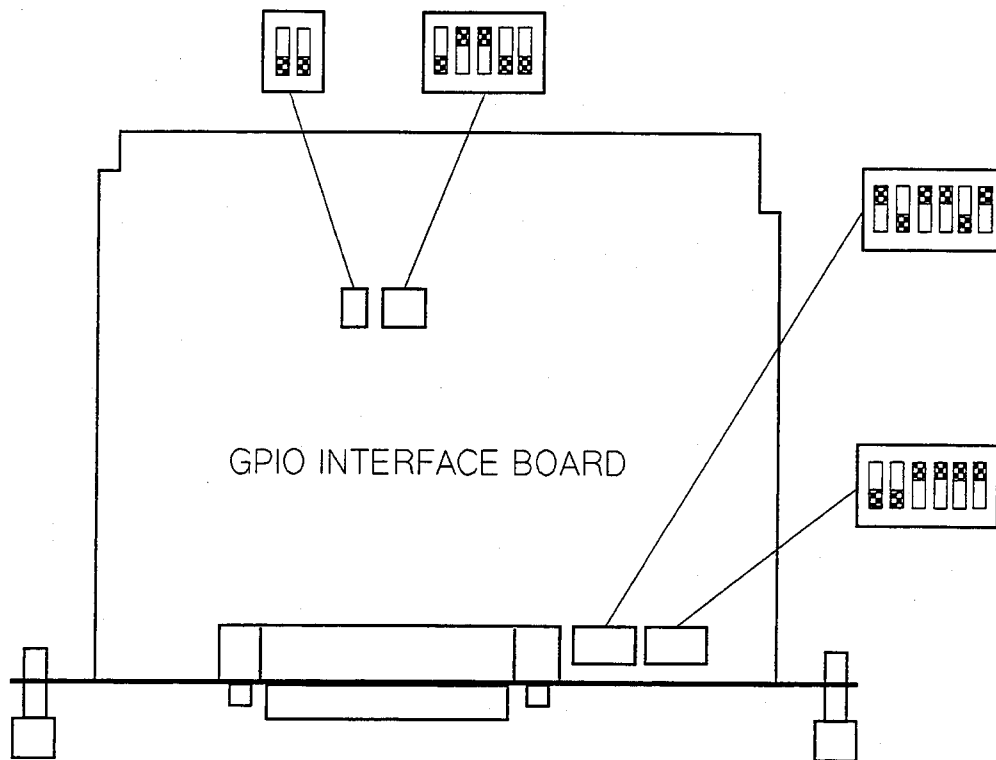

Figure 1-3. GPIO Interface Setting
1. Set the GPIO interface switches as shown in Figure 1-3.